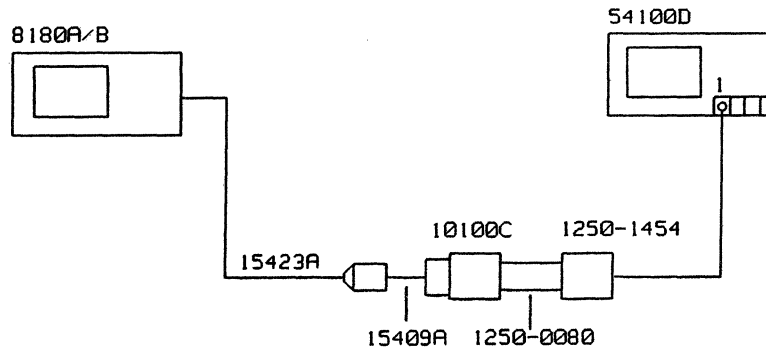

Figure 6-10. Test Setup for the Transition Time / Overshoot Test
6. Connect the equipment as shown in Figure 6-10 and press RUN.